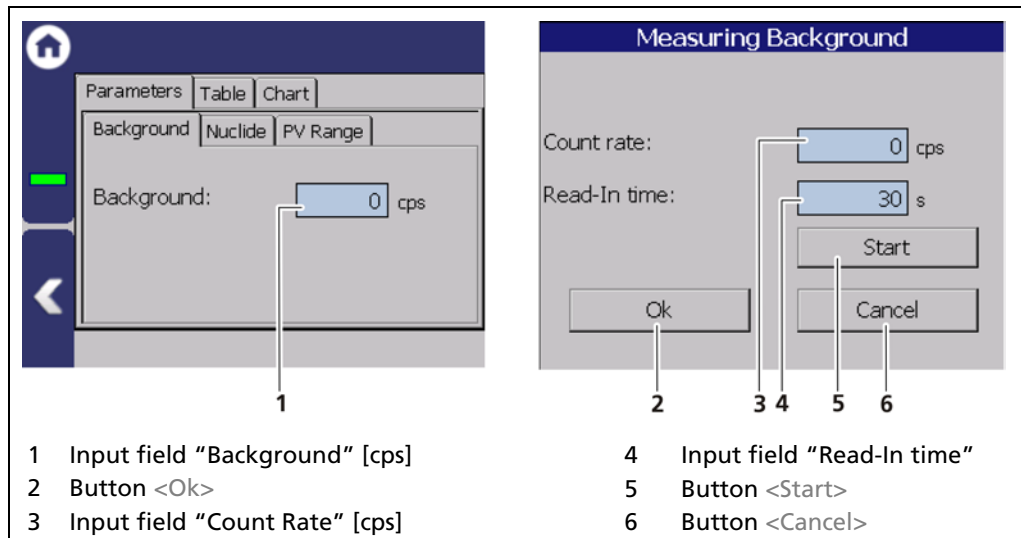

Fig. 66 Calibration Parameters: Background
The background count rate (Fig. 66, item 1) is the natural background radiation detected by the detector and must be measured at least for rod detectors. This count rate is compensated for by the system and must be determined for all connected level detectors.
1. Click on the text field "Background" (Fig. 66, item 1).